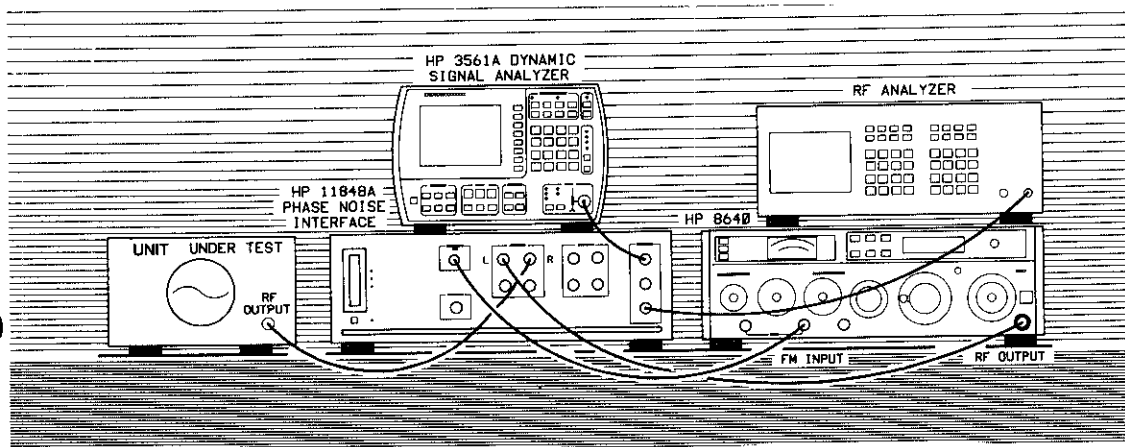

Figure 3-11. Setup Diagram for the Free-Running RF Oscillator Measurement Example.
3. When the Connect Diagram appears, connect the signal paths as shown on the display. (Figure 3-11 also shows the cable connections for this measurement.) Table 3-6 provides additional setup considerations that will help you ensure that your measurement results will be valid.